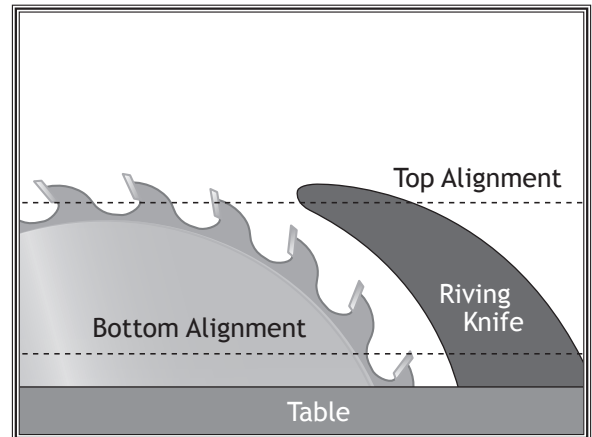
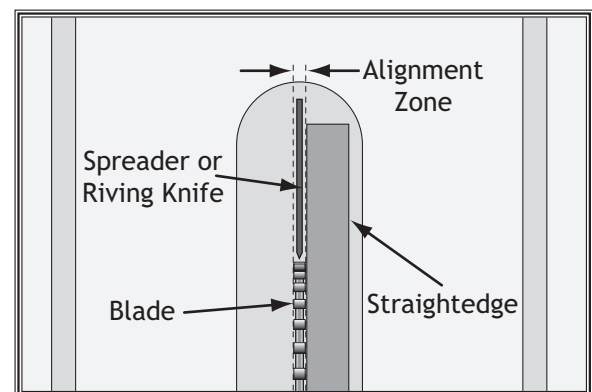

Figure 13. Checking top and bottom riving knife parallelism with blade.
Figure 14. Spreader/riving knife alignment zone.
4. Place the straightedge against the top and bottom of blade and spreader/riving knife, as shown in **Figure 13**. The spreader/riving knife should be parallel with the blade along its length at both positions and should be in the "Alignment Zone," as shown in **Figure 14**.